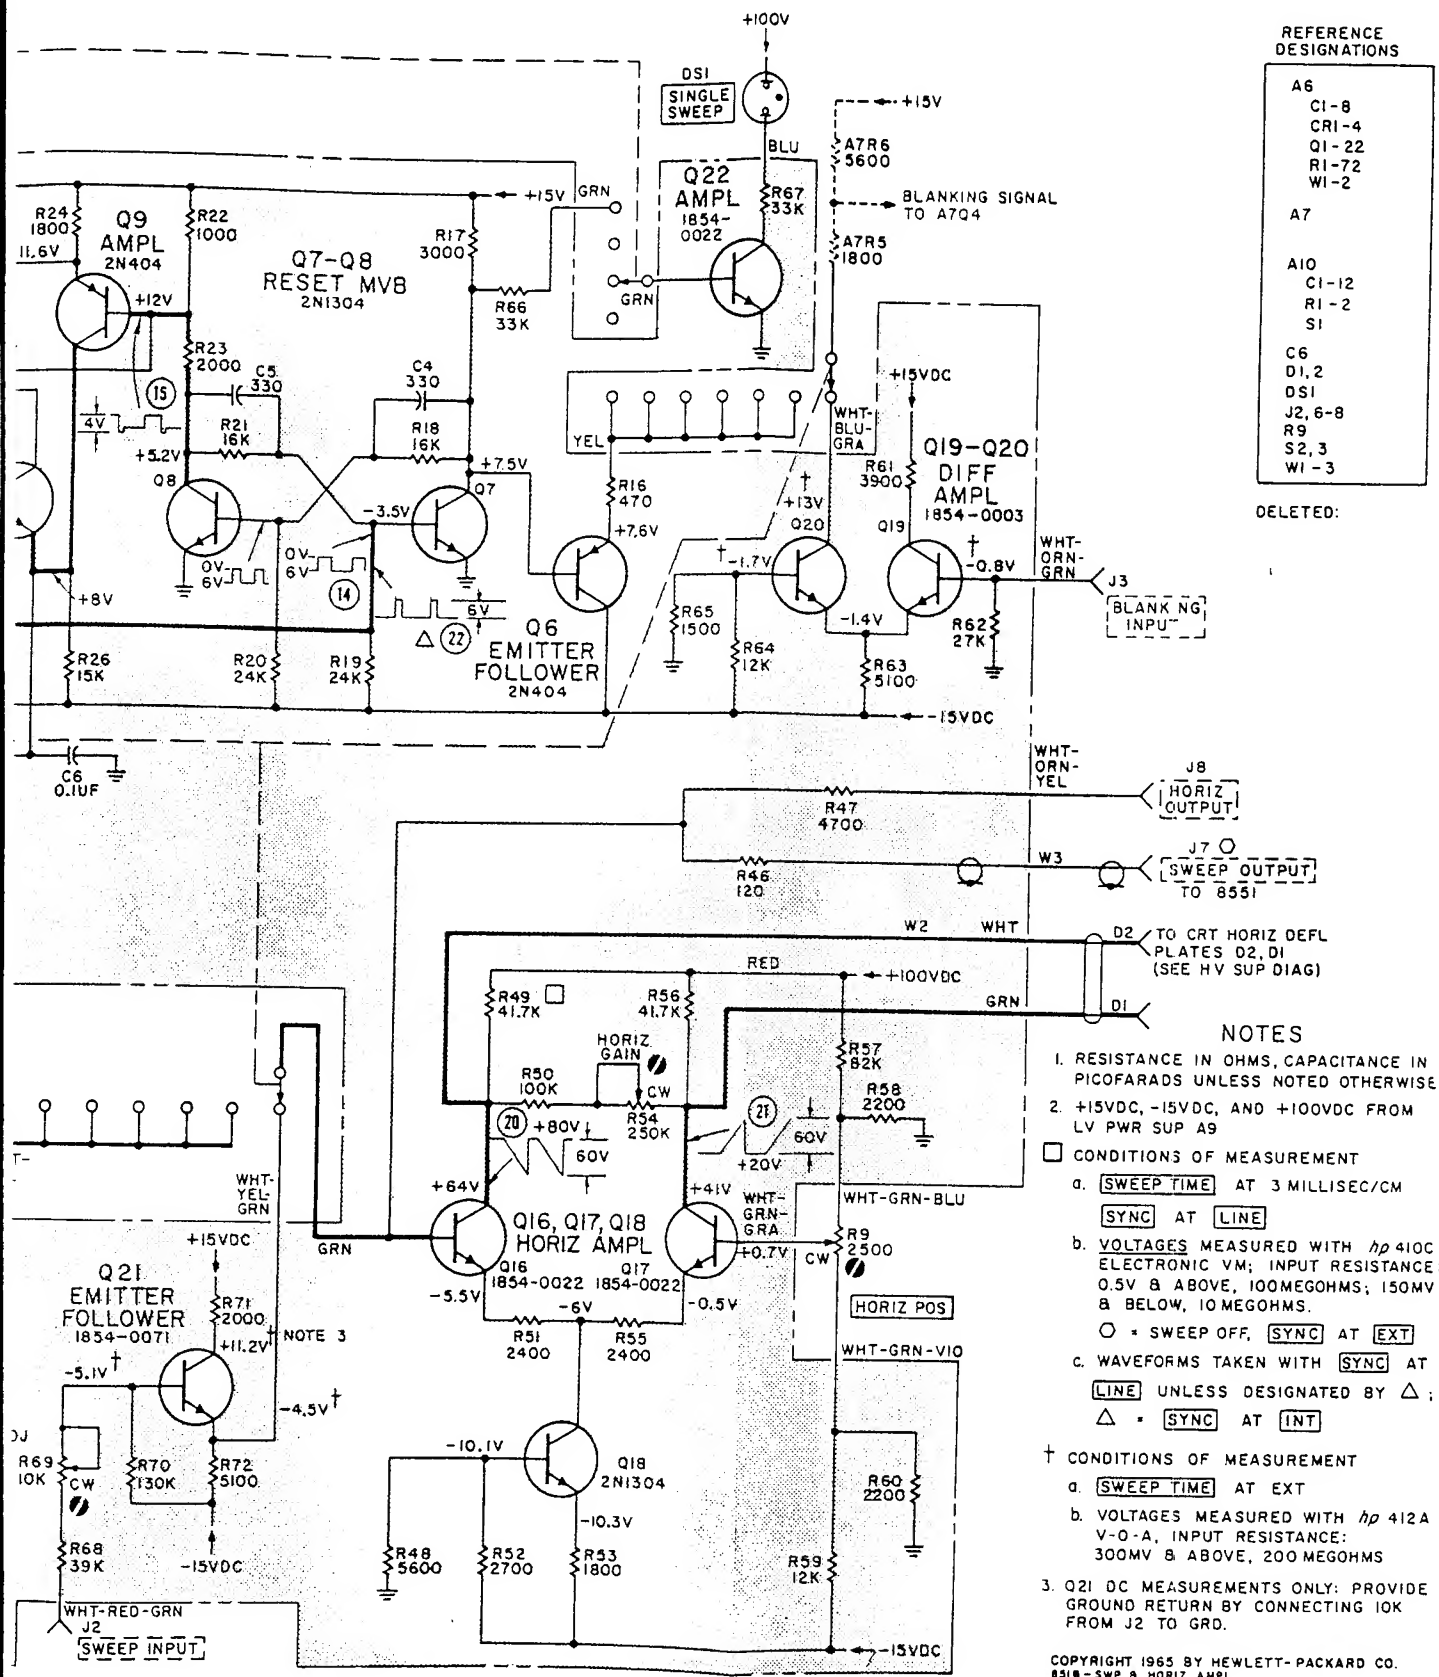

Figure 5-33. Sweep and Horizontal Amplifier Schematic, 851B
5. -24VDC APPLIED VIA I.F. BANDWIDTH; SEE FIGURE 5-33